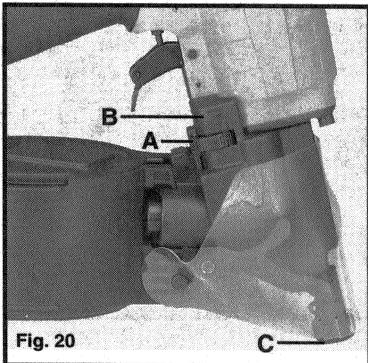
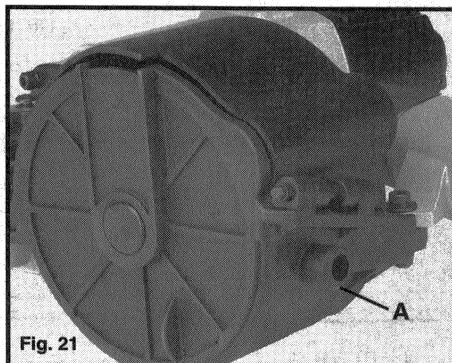

Fig. 20
Fig. 21
The depth that a fastener is driven is controlled by the adjustable thumb wheel depth selector (A) Fig. 20. Test fire a fastener and check depth. If a change is desired, rotate the thumb wheel (A) to the left to the next detent position to lower the depth or to the right to raise the depth. See pictogram shown in (B) Fig. 20. Test fire another fastener and check depth. Repeat as necessary to achieve desired results. The amount of air pressure required will vary depending on the size of the fastener and the material being fastened. Experiment with the air pressure setting to determine the lowest setting that will consistently perform the job at hand. Excess air pressure can cause premature wear and/or damage to the tool.
A rubber nose cushion (C) Fig. 20, is provided to reduce marring of the work surface. The rubber cushion can be pulled off to provide increased depth-of-drive for toe-nailing applications. The nose cushion can be stored in the rear area of the magazine (A) Fig. 21, when not in use.